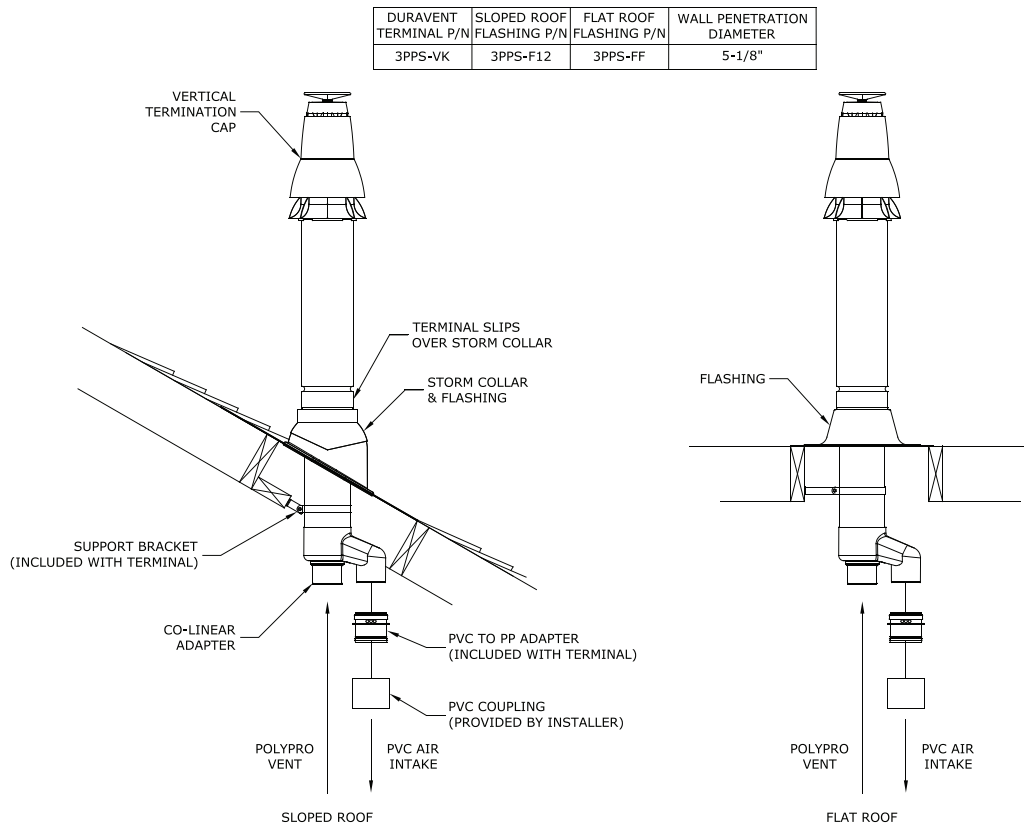

Figure 7.40: Installation of DuraVent PolyPro Concentric Terminal Through Roof
7. Vertical Installations using PolyPro Vertical Concentric Termination Kit #3PPS-VK (Figure 7.40):
- b. Use a roof flashing and storm collar to prevent moisture from entering the building. See Figure 7.40 for the model number of the flashing to be used depending on the type of roof. Seal the roof flashing to the roof using generally accepted practice for the type of roof on the installation.